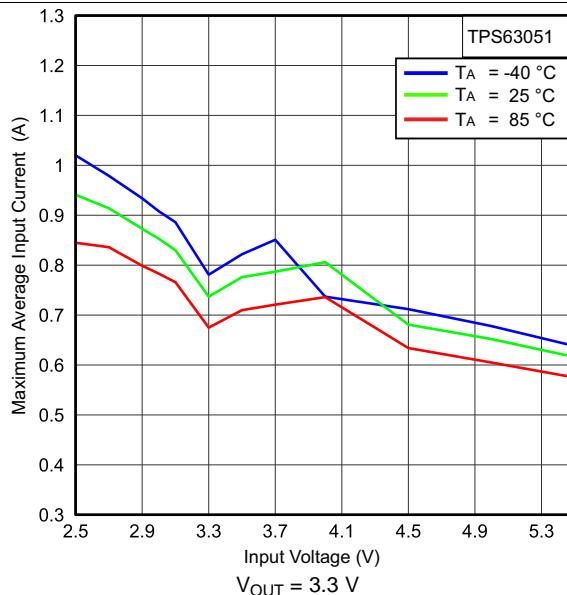
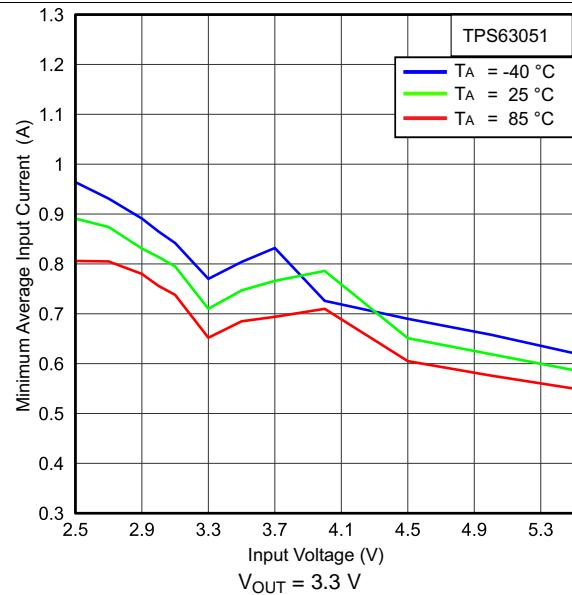

Figure 1. Maximum Average Input Current vs Input Voltage
Figure 2. Minimum Average Input Current vs Input Voltage
(1) For minimum and maximum output current in a specific working point see Figure 1 and Figure 2; and Equation 1 through Equation 4.
(2) Conditions: $T_J = -40^\circ\text{C}$ to 85°C
(3) Conditions: $f = 2.5 \text{ MHz}$, $L = 1.5 \mu\text{H}$, $C_{OUT} = 10 \mu\text{F}$
The TPS6305x devices have an internal user programmable current limit that monitors the input current during start-up. This prevents high inrush current protecting the device and the application. During start-up the input current does not exceed the current limit that is set by I_{LIM0} pin and I_{LIM1} pin. Depending on the logic level applied at these two pins, switching between four different current limit-levels is possible. The variation of those values over input voltage and temperature is shown in Figure 1 through Figure 2. Adjusting the soft-start time further using the soft-start capacitor is possible.
Given the curves provided in Figure 1 through Figure 2, calculating the output current in the different condition in boost mode is possible using Equation 1 and Equation 2 and in buck mode using Equation 3 and Equation 4.
- I_{IN} = Minimum average input current (Figure 2 to Figure 2)
- (2)